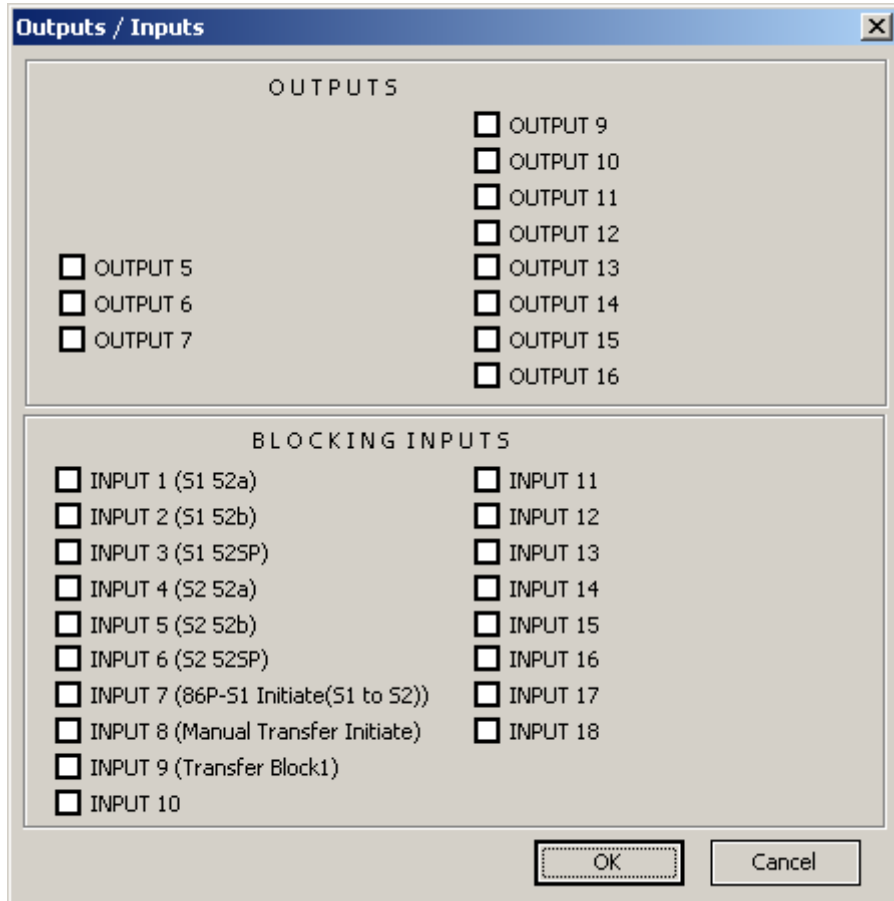

Figure 4-81 60FL Bus VT Fuse-Loss Function Inputs/Outputs Selection Dialog Screen
**I/O Selection** — The I/O Selection button opens the 60FL Bus VT Fuse-Loss I/O Selection Dialog Screen (Figure 4-81) that allows any input or the Fuse Loss (FL) function to be selected to block the 60FL Function. The 60FL Function can also be used to activate a selected output when it times out.